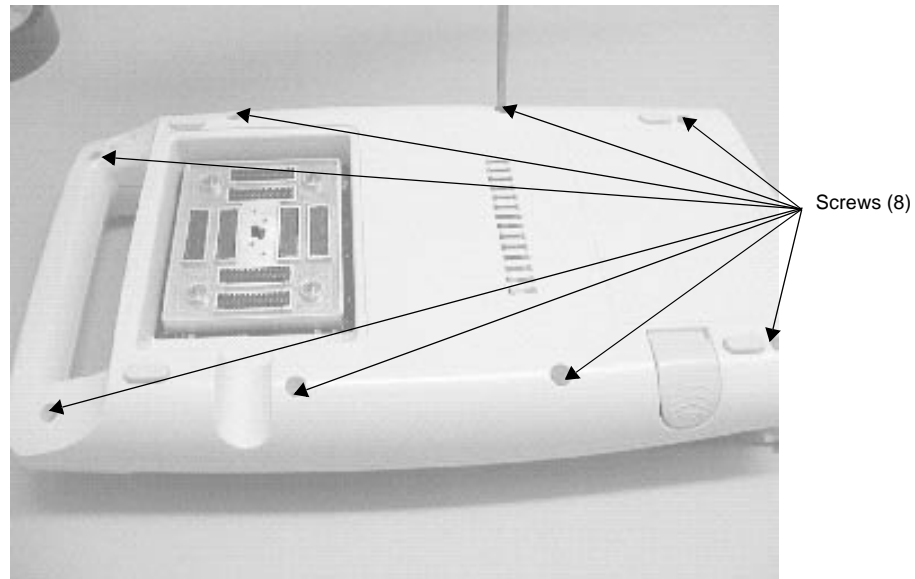

Figure 7.23 Securing the Bottom Housing to the Top Housing
- 5 Carefully mate the bottom housing to the top housing and secure the eight screws using a #1 Phillips screwdriver (Figure 7.23). Torque the screws to 7.1 in./lb. (0.8 newton meter).